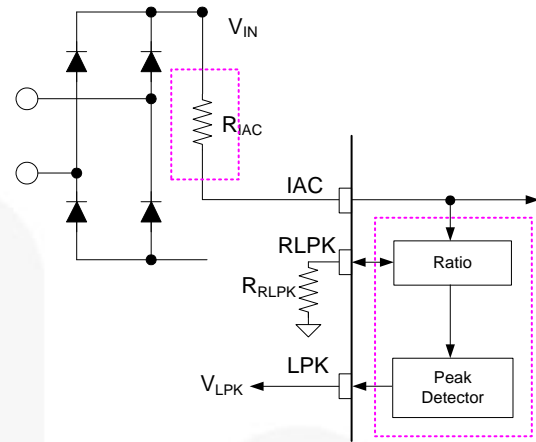

Figure 29. Relationship of  $V_{IN.PK}$  to  $V_{LPK}$
The relationship of  $V_{IN.PK}$  to  $V_{LPK}$  is shown in Figure 29. The peak detection circuits detect the  $V_{IN}$  information from  $I_{AC}$ .  $R_{LPK}$  sets the ratio of  $V_{IN}$  to  $V_{LPK}$  via a resistor  $R_{RLPK}$ , as described in Equation (8). The target value of  $V_{LPK}$  is one percent (1%) of  $V_{IN.PK}$ . The maximum  $V_{LPK}$  cannot be over 3.8 V when system operation is at maximum AC input.